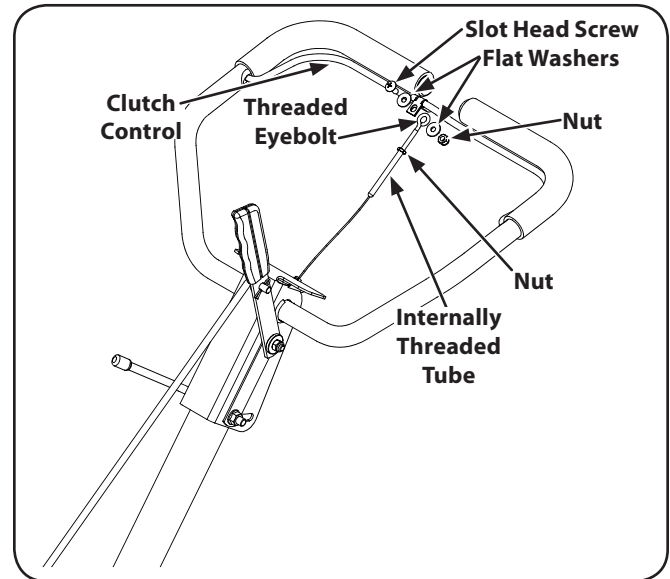

Figure 3-4
4. Remove the slot head screw, nut and two flat washers from the clutch bail. See Fig. 3-4.
6. Thread the eyebolt and nut removed earlier into the internally threaded tube at the end of the cable. The thread engagement should be about $\frac{3}{4}$ ". Tighten the nut against the tube at the end of the cable. See Fig. 3-4.